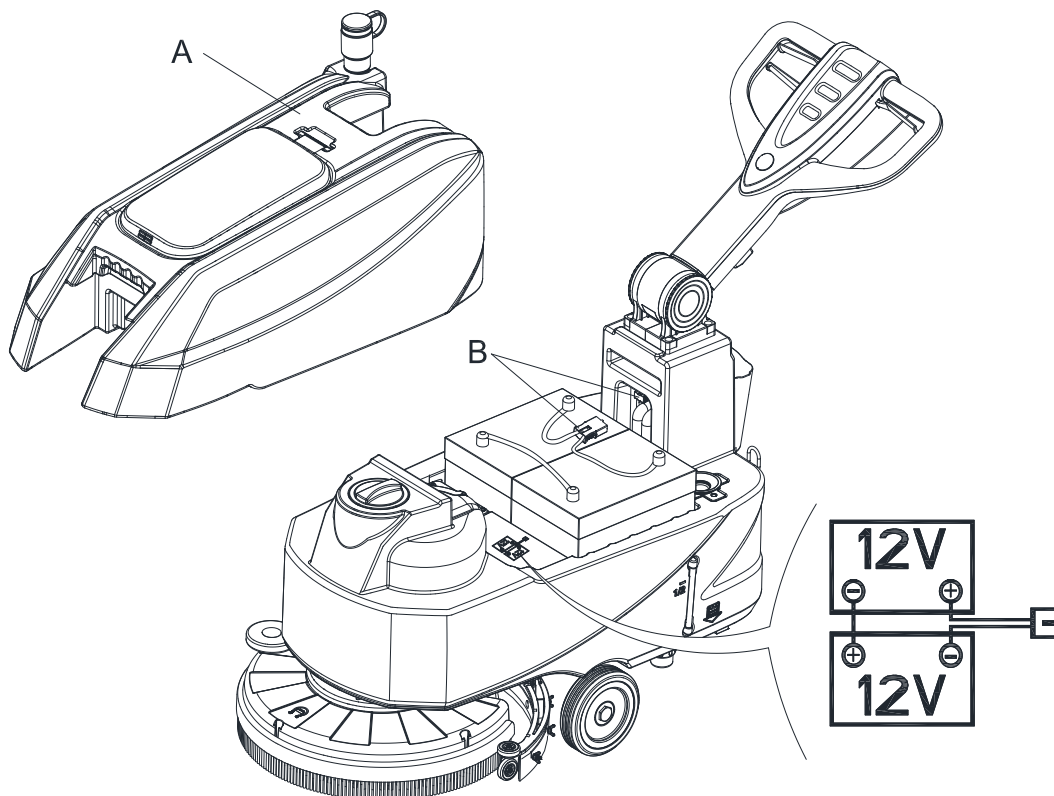

Figure 3
The machine requires two 12 V batteries, connected according to the diagram (Figure 3).
1. Check that the batteries are connected to the machine with the connector (B, Figure 3).
5. Move the recovery tank kit (A, Figure 3) carefully.
7. Route and install the battery cable as shown in (Figure3), then carefully tighten the nut on each battery terminal.
8. Place the protection cap on each terminal, then connect the battery connector (B, Figure 3).
9. Carefully put it back the recovery tank kit (A, Figure 3).